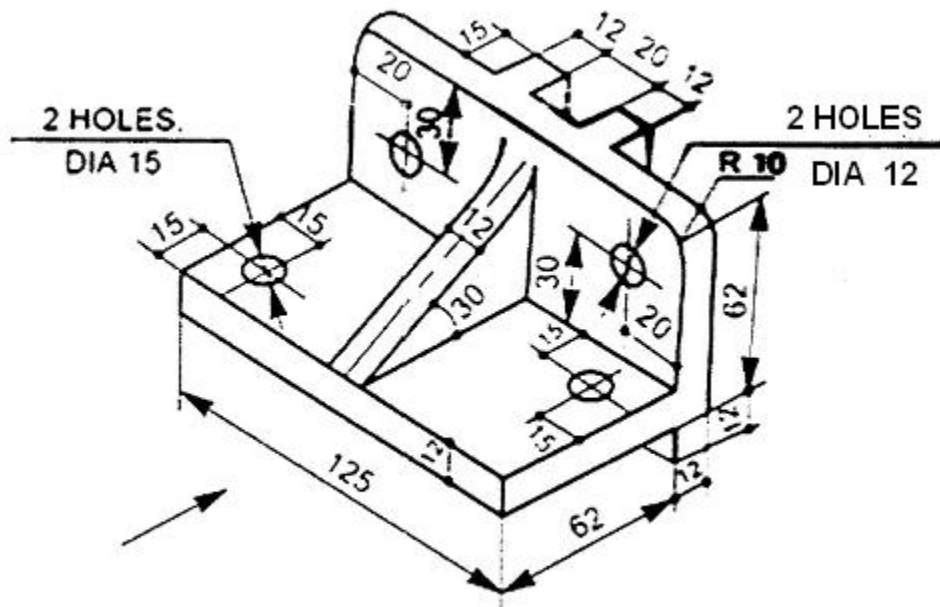

Fig. 1
- 3 Draw the following views of the component shown in Fig. 1. 10